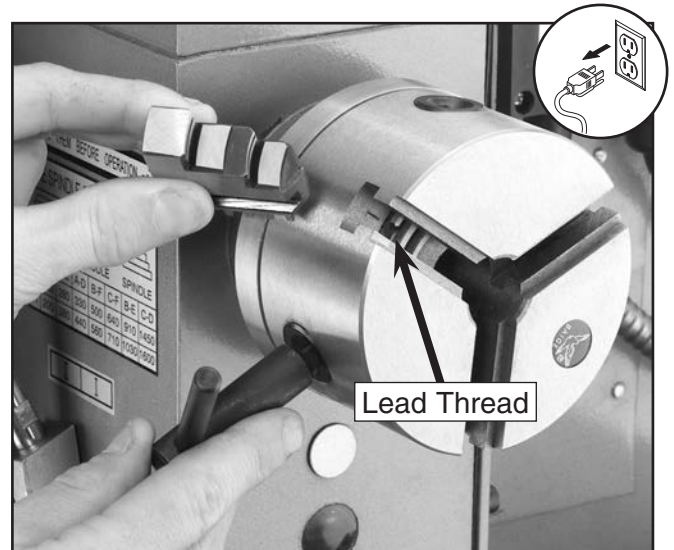

Figure 14. Arrow points to the lead of the scroll.
5. Locate the slot and the jaw with the #1 and rotate the chuck key in the clockwise direction until you see the beginning of the lead thread on the scroll come into view through the slot, then back it off slightly until it disappears again. In **Figure 14**, the lead thread is still showing in the slot. The jaw cannot be loaded until the lead thread for the scroll is no longer seen in the slot.